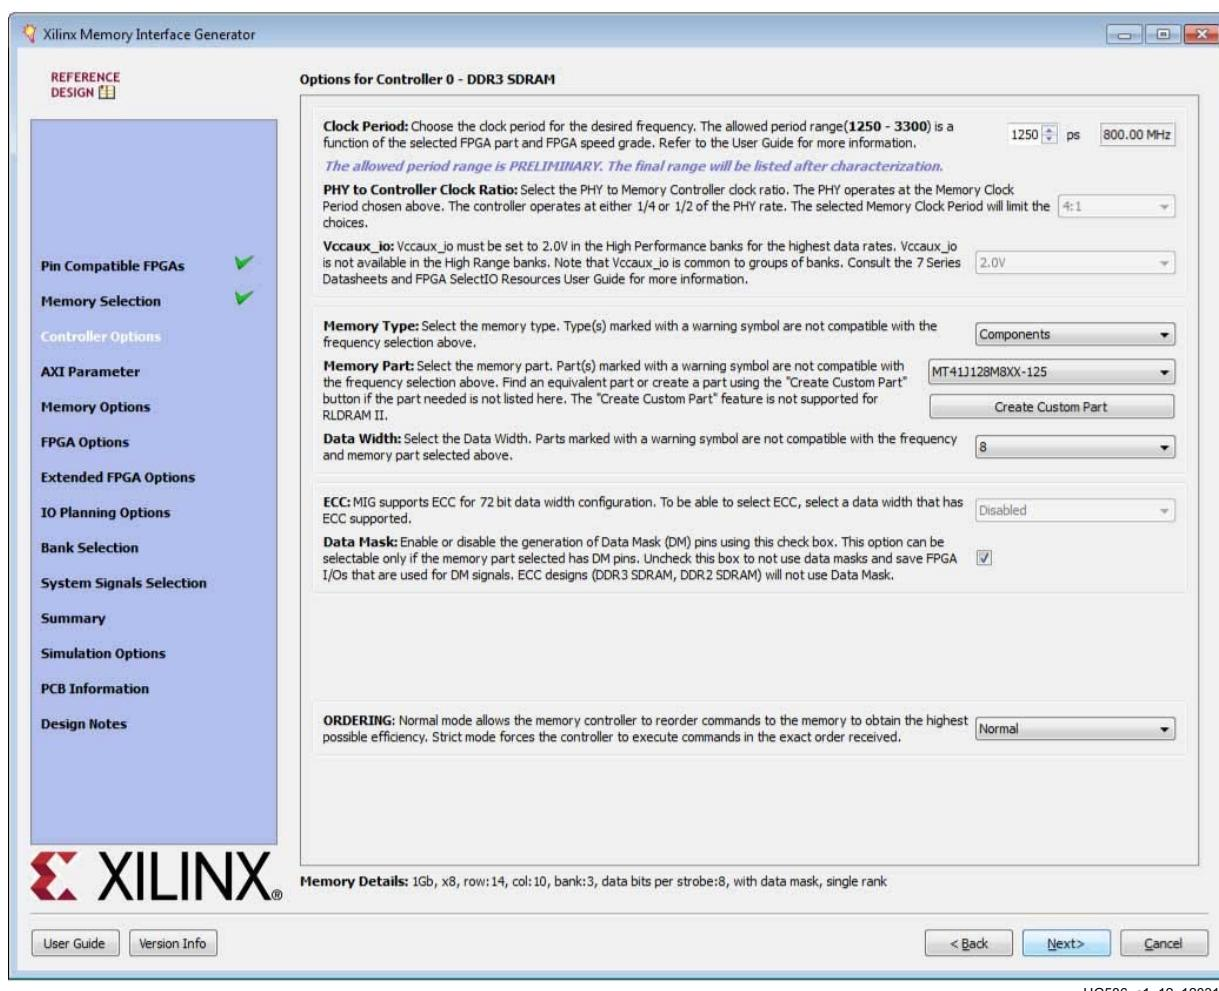

Figure 1-17: Controller Options Page
This page shows the various controller options that can be selected (Figure 1-17).
- **Memory Details** – The bottom of the **Controller Options** page (Figure 1-17, page 30) displays the details for the selected memory configuration (Figure 1-18).